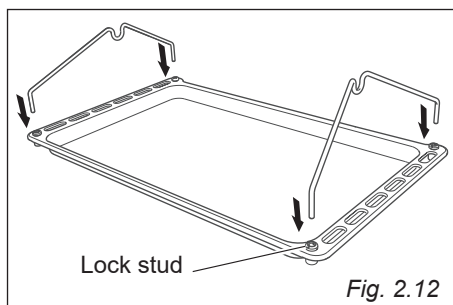

Fig. 2.12
1. Prepare the rotisserie support (fig. 2.12).